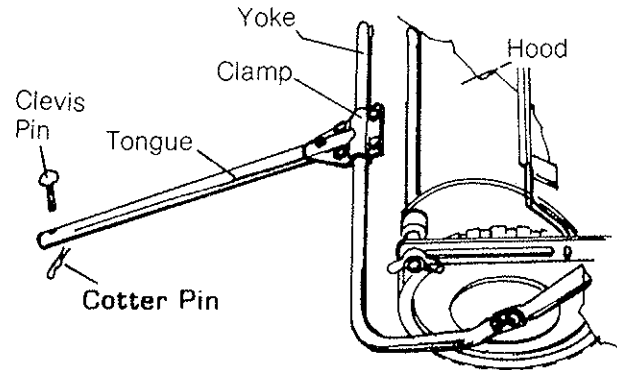

Figure 6
4. Fig. 6 - Place the 2 Clamps around the Yoke and fasten together loosely with (4) $\frac{1}{4}$ -20 x $\frac{5}{8}$ Hex Bolts and (4) Hex Lock Nuts. Now insert the Tongue between the (2) Clamps and use the $\frac{1}{4}$ -20 x $1\frac{1}{2}$ Bolt and Lock Nut to fasten to the (2) Clamps. Be sure the dimple in the Clamp is over the dimple in the Yoke, then tighten all Lock Nuts. Place the Clevis Pin thru the Tongue then insert the Cotter Pin in the Clevis Pin.